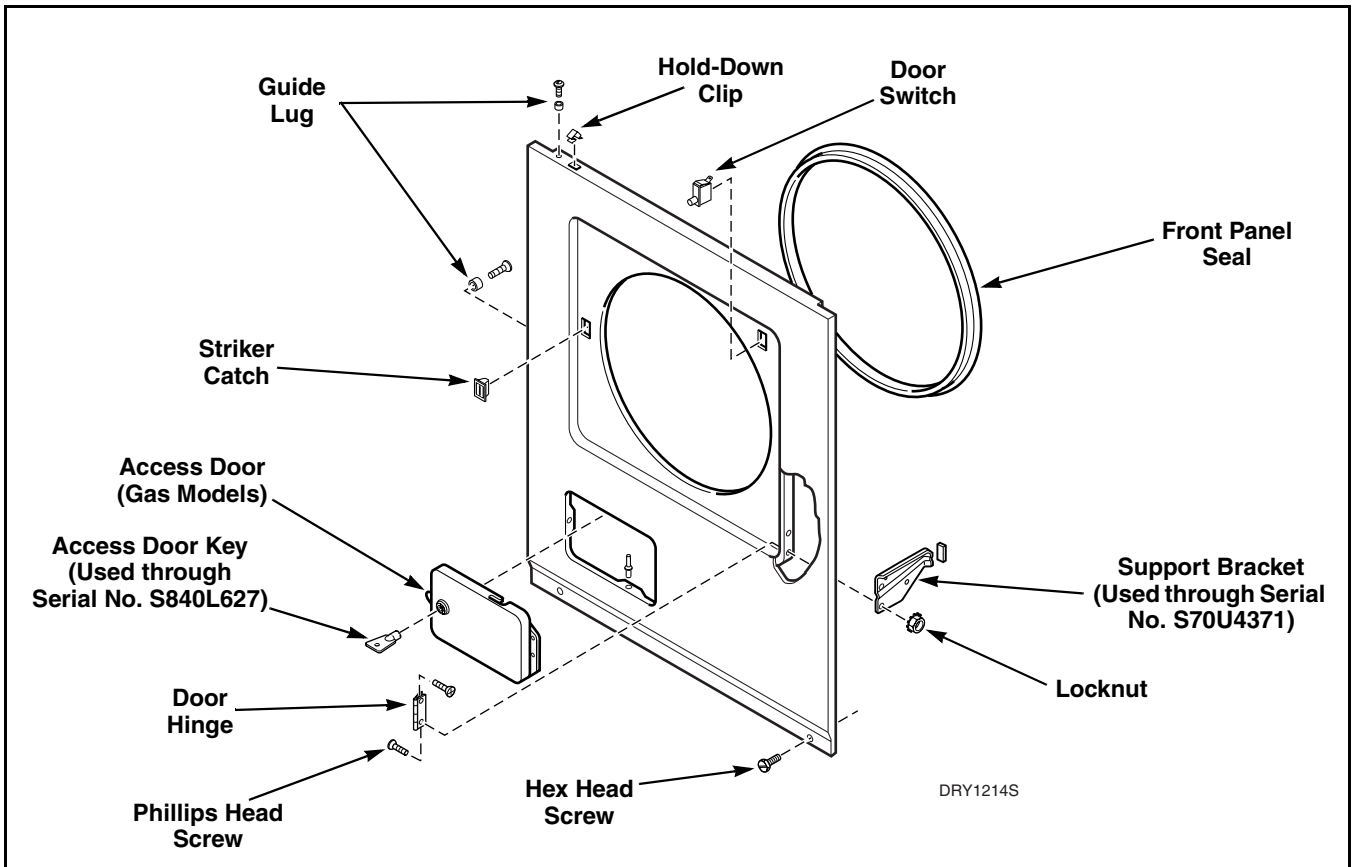

Figure 18
Refer to *Figure 18*
- c. Remove four Phillips head screws and locknut holding hinges to front panel. Refer to *Figure 18*.
- c. Remove four screws holding four guide lugs to front panel. Refer to *Figure 18*.